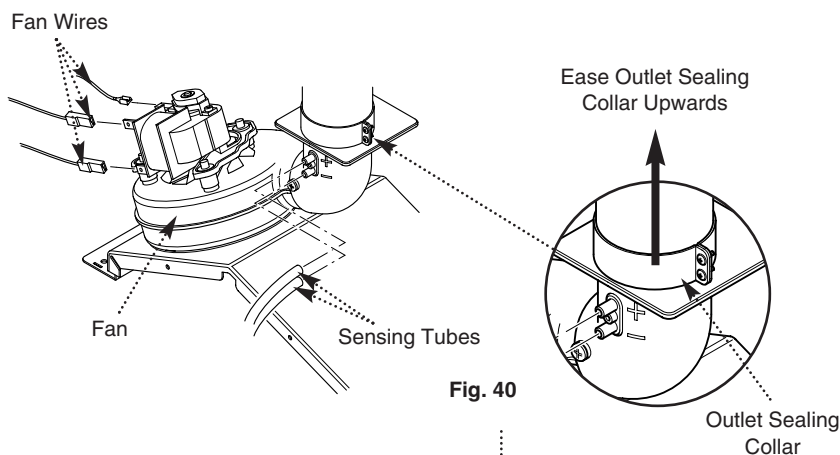

Fig. 40
8. Note the positions of the two sensing tubes on the outlet elbow and three wires on the fan motor and remove them (Fig. 40).
9. Slacken the screws on the outlet sealing collar. Ease the collar upwards as far as possible (Fig.40).